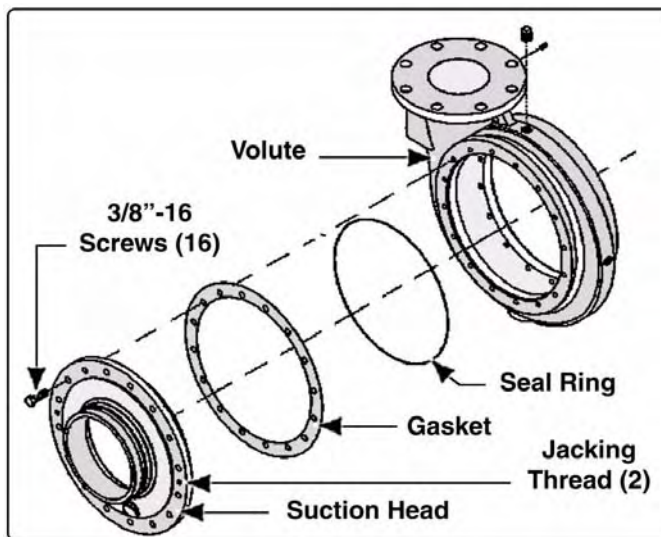

Figure 6-5: DSD Suction Head and Volute Overview
3. Remove the sixteen (16) 3/8”-16 screws holding the suction head to the volute. (See Figure 6-5: “DSD Suction Head and Volute Overview.”)
4. Install the two (2) 3/8”-16 jacking screws into the suction head flange. Tighten the jacking screws **EVENLY** to unseat the suction head, seal ring and gasket from the volute. Support the weight of the suction head. It is heavy and bulky.
(See Figure 6-5: "DSD Suction Head and Volute Overview" on page 79.)